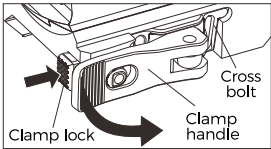

Fig4-1
2. Designed with our patented nonlinear cam clamping system, no tools are required for attaching to a rail. Push locking button, lift up handle to loosen the locking bar. To mount sight on rail, push the handle down, locking button will automatically engage. The installation is complete.(fig 4-1)